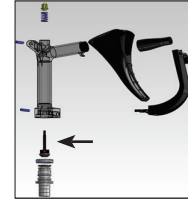
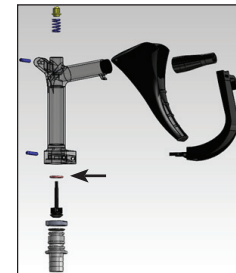

Figure 12
Figure 13
9. Remove the valve stem (Figure 12). Remove the valve assembly o-ring (Figure 13).